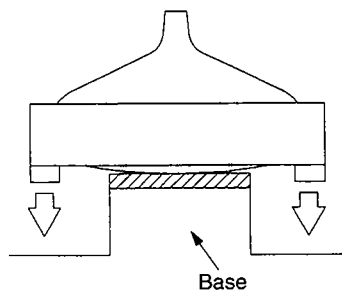
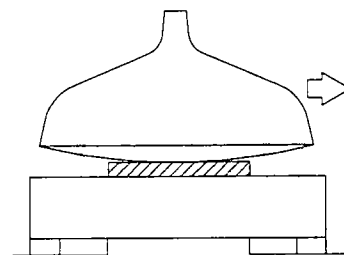

Fig. 6-2
Fig. 6-3
10. Remove the CRT from the cabinet carefully. (Fig. 6-2, Fig. 6-3)